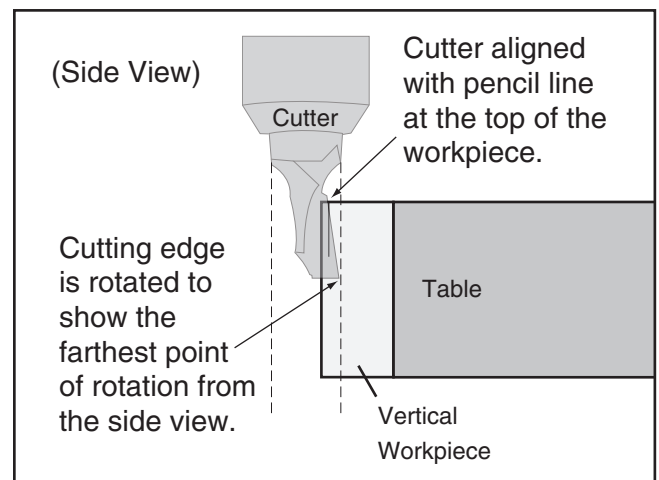

Figure 38. Cutter position for setting tail thickness (as viewed from the side).
7. Unlock the tracer pin, and adjust the thumbwheel as necessary until the cutter is positioned as shown in **Figure 38**.